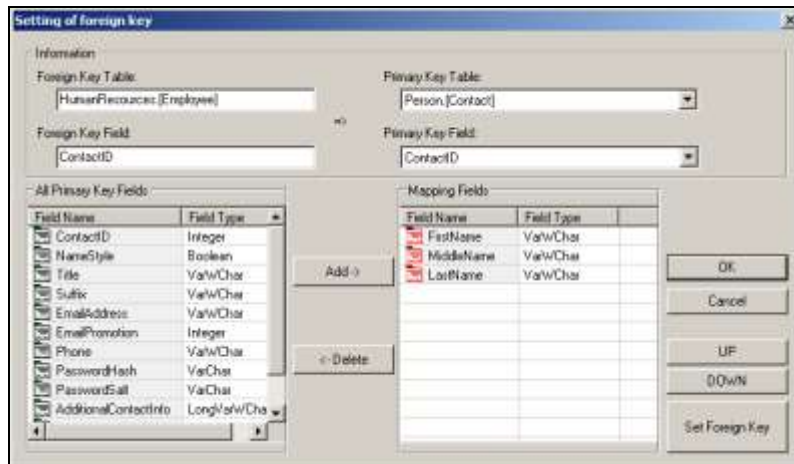

Figure 17-9
- In the left pane of the foreign key dialog box, select the field(s) of the Primary Key Table corresponding to the field of the Foreign Key Table. In this example (Figure 17-9), the **Contact ID** field of “Human Resource (Employee)” Foreign Key Table is linked to the **First Name, Middle Name and Last Name** fields of “Person (Contact)” Primary Key Table.
- Click **OK**. In the Mapping Setting window, you can see the mapping results. In the example (Figure 17-9), the **Name** field of the GV-ASManager database is mapped to the **Contact ID** field of the source database which includes **First Name, Middle Name and Last Name** (which are linked from the Primary Key Table).